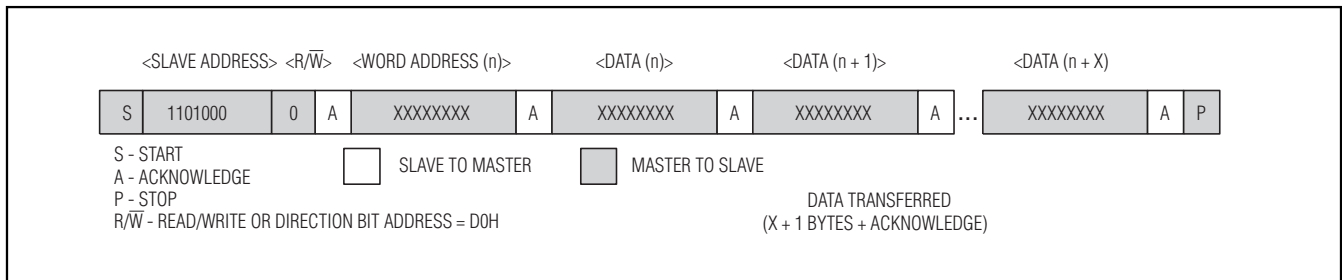

Figure 3. Data Write—RTC Slave Receiver Mode
1) Slave receiver mode (DS32x35 write mode): Serial data and clock are received through SDA and SCL. After each byte is received an acknowledge bit is transmitted. START and STOP conditions are recognized as the beginning and end of a serial transfer. Address recognition is performed by hardware after reception of the slave address and direction bit (see Figures 3, 5, and 7). The slave address byte is the first byte received after the master generates the START condition. The slave address byte contains one of the 7-bit DS32x35 addresses. The slave address is 1101000 for the RTC. For the DS32B35 FRAM, the first four bits are 1010, and the next three bits select one of eight blocks of data (see Table 2). For the DS32C35 FRAM, the first seven bits are 1010000. Each slave address is followed by the direction bit (R/W), which is zero for a write. After receiving and decoding the slave address byte, the device outputs an acknowledge on the SDA line. After the device acknowledges the slave address and write bit, the master transmits a register address to the device. For the DS32C35, the master transmits two bytes for the register address information. This sets the register pointer on the device. After setting the register address, the master then transmits zero or more bytes of data with the DS32x35 acknowledging each byte received. The master generates a STOP condition to terminate the data write.